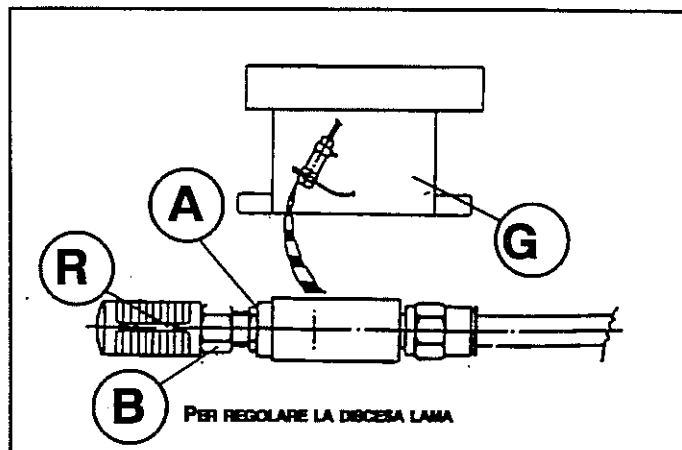

Fig.6.7
Unscrew the lock nut (A fig.6.7) from regulator (R) on the piston.